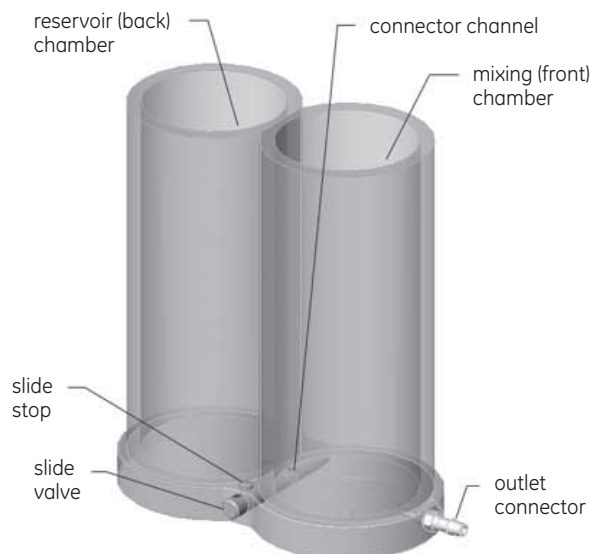

Fig 5-1. DALTsix gradient maker.
- 3 Close the slide valve (out on side of white slide stop button, Fig 5-1). If the outlet tubing is not controlled by a pump, clamp it off near the gradient former. Add the required volume of the final solution to the reservoir (back) chamber.